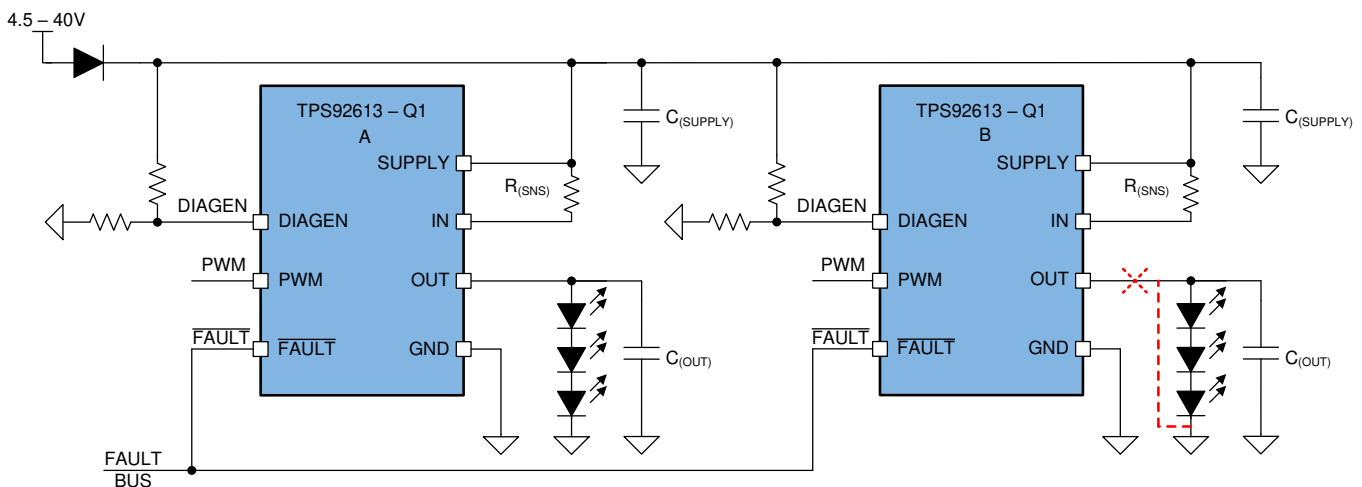

Figure 22. Typical Application Schematic for One-Fails-All-Fail
Based on this feature, the TPS92613-Q1 device is able to construct a FAULT bus by tying $\overline{\text{FAULT}}$ pins from multiple TPS9261x-Q1, TPS9263x-Q1 or TPS92830-Q1 devices to realize one-fails-all-fail function as Figure 22 showing. The right side TPS92613-Q1 (B) detects either LED open-circuit fault or LED short-to-GND fault and pulls low the FAULT pin. The low voltage on FAULT pin is detected by left side TPS92613-Q1 (A) because the FAULT pins are connected of two devices. The left TPS92613-Q1 (A) turns off the output current as a result.